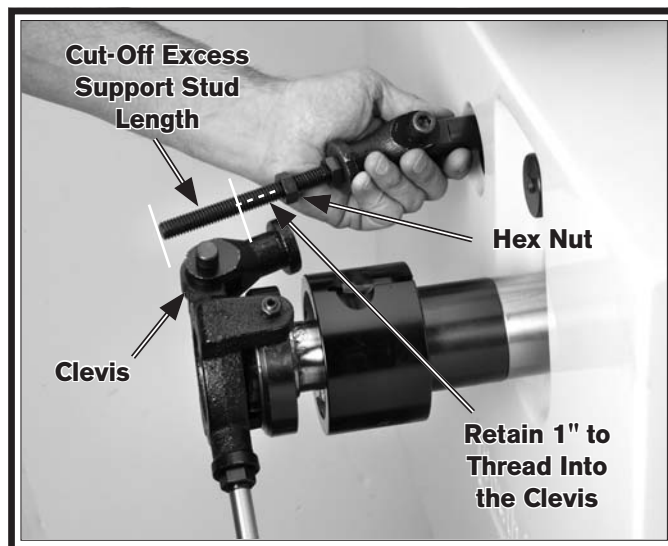

Figure 8. Support stud sizing.
16. Position the collet attachment lock lever so it is parallel with the gear cover, and mark how much of the support stud must be cut off (**Figure 8**) in order for the lever to be parallel with the cover surface. Next, cut off the excess support stud length.
18. Tighten the hex nut on the support stud against the clevis (**Figure 8**).